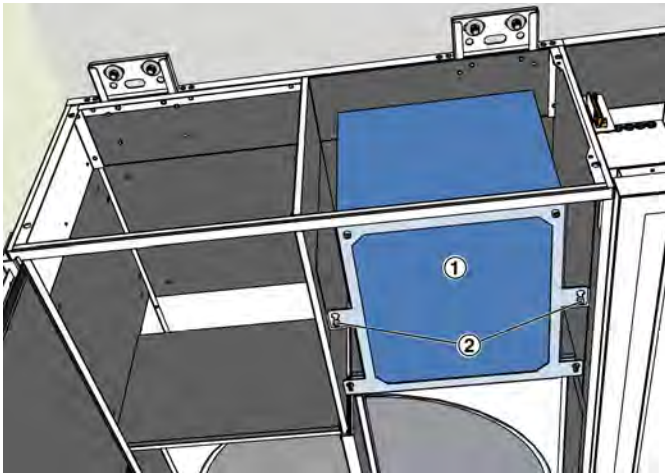

Fig. 16: Remove the sound attenuator from component 1
9. ▶ Dismantle the silencer (Fig. 16 /1) in component 1 by slightly loosening the two hexagon socket screws (Fig. 16 /2) and then pulling out the sound attenuator. Store the sound attenuator for later assembly.